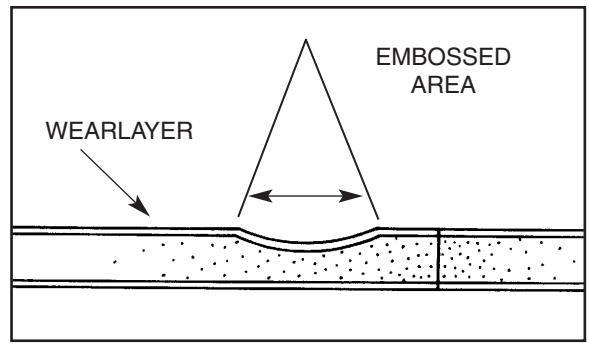

Fig. 14. Seam $1/8''$ (3.2mm) from edge of mortar line or grout joint in land area of design.
- Another area for seam cutting is in the land area about $1/8''$ (3.2mm) from the edge of embossed mortar lines or grout joints as in Figure 14. This method will be necessary for seaming 6' wide flooring slit from 12' materials where there is only one selvage edge and more than one seam is required. This seaming method may also be utilized on designs with thin embossed lines $5/32''$ (4.0mm) or less in width.